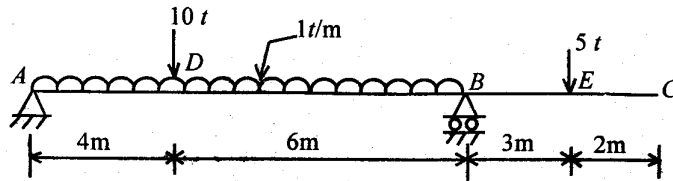

Fig. 2
- (b) Fig. 2 shows a beam of 10 m span and having an overhang of 5 m. Calculate the slope and deflection at D as well as at C. Take EI as constant. 10